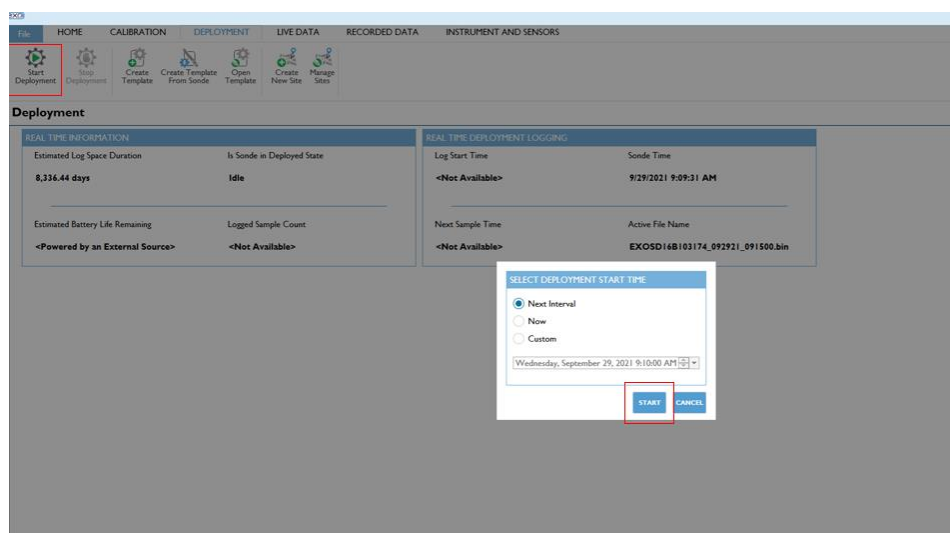

Figure 4. Start Deployment
4. Once parameters are confirmed select **Start Deployment** and **Start** (**Figure 4**).